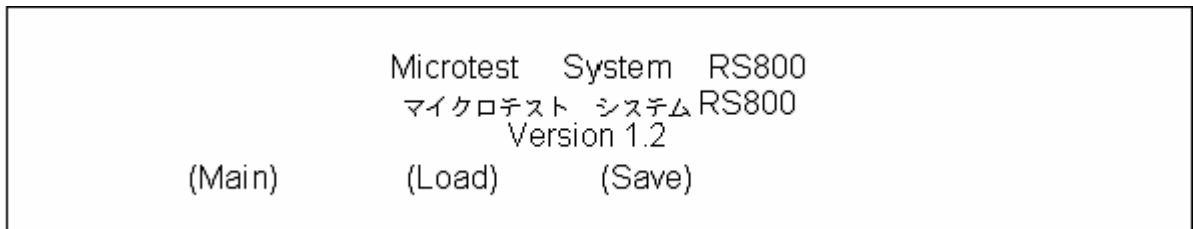

Fig. 02
Step 1: Turn on the RS800 tester system by switching on the power switch. The following screen will first appear on the LCD display: (Fig. 02)
The PC will only recognize the tester when the USB cable is connected on the first LCD screen as shown in Fig. 02.